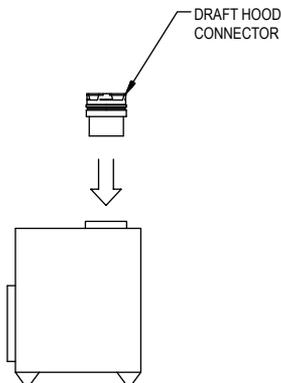
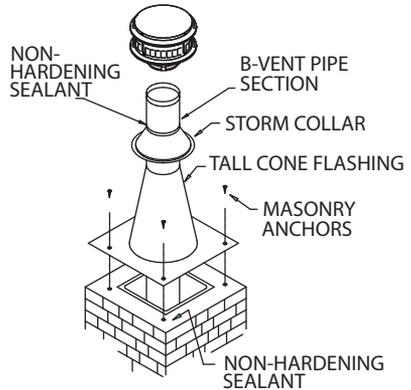

Figure 26
**Figure 27**
**(c). Connector.** Read the appliance manufacturer's instructions for connecting the Flex Pipe to the appliance. In most cases, a Draft Hood Connector will be required as shown in **Figure 26**. If you are not sure, contact the appliance manufacturer for clarification. Place the appliance out in front of the fireplace area, as shown in **Figure 27**, and install the Draft Hood Connector, or other device in accordance with the appliance instructions. The Flex Pipe Coupling may be able to attach directly to the appliance.